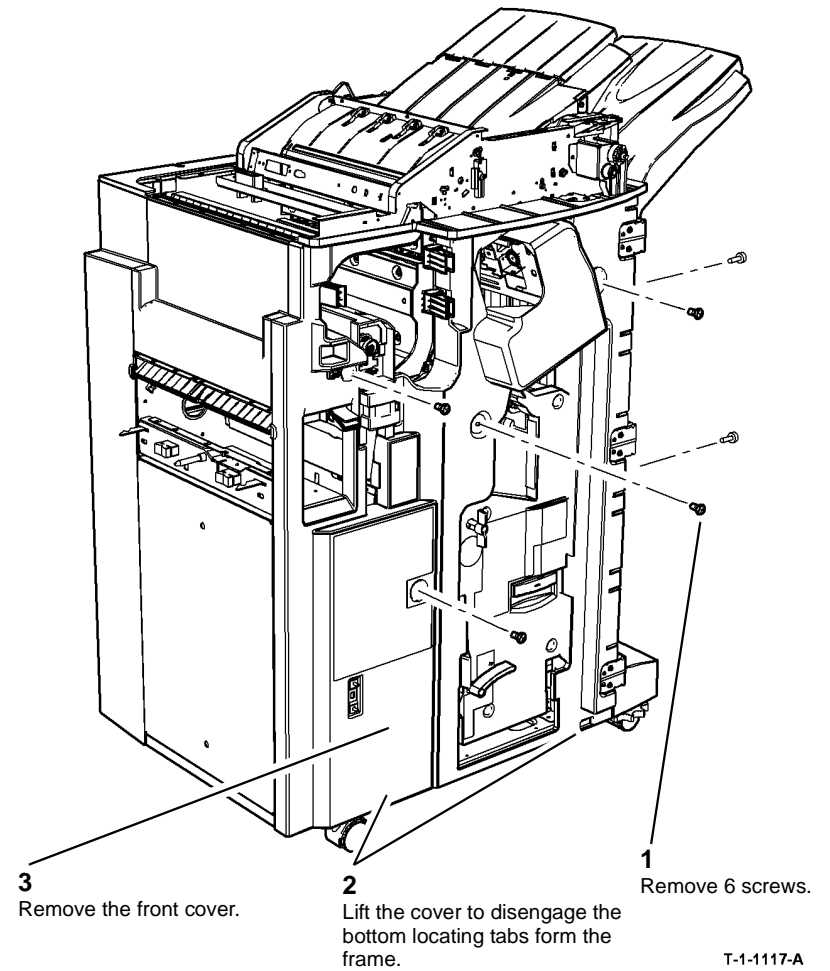

Figure 3 Front cover removal
3. Remove the front cover, Figure 3.